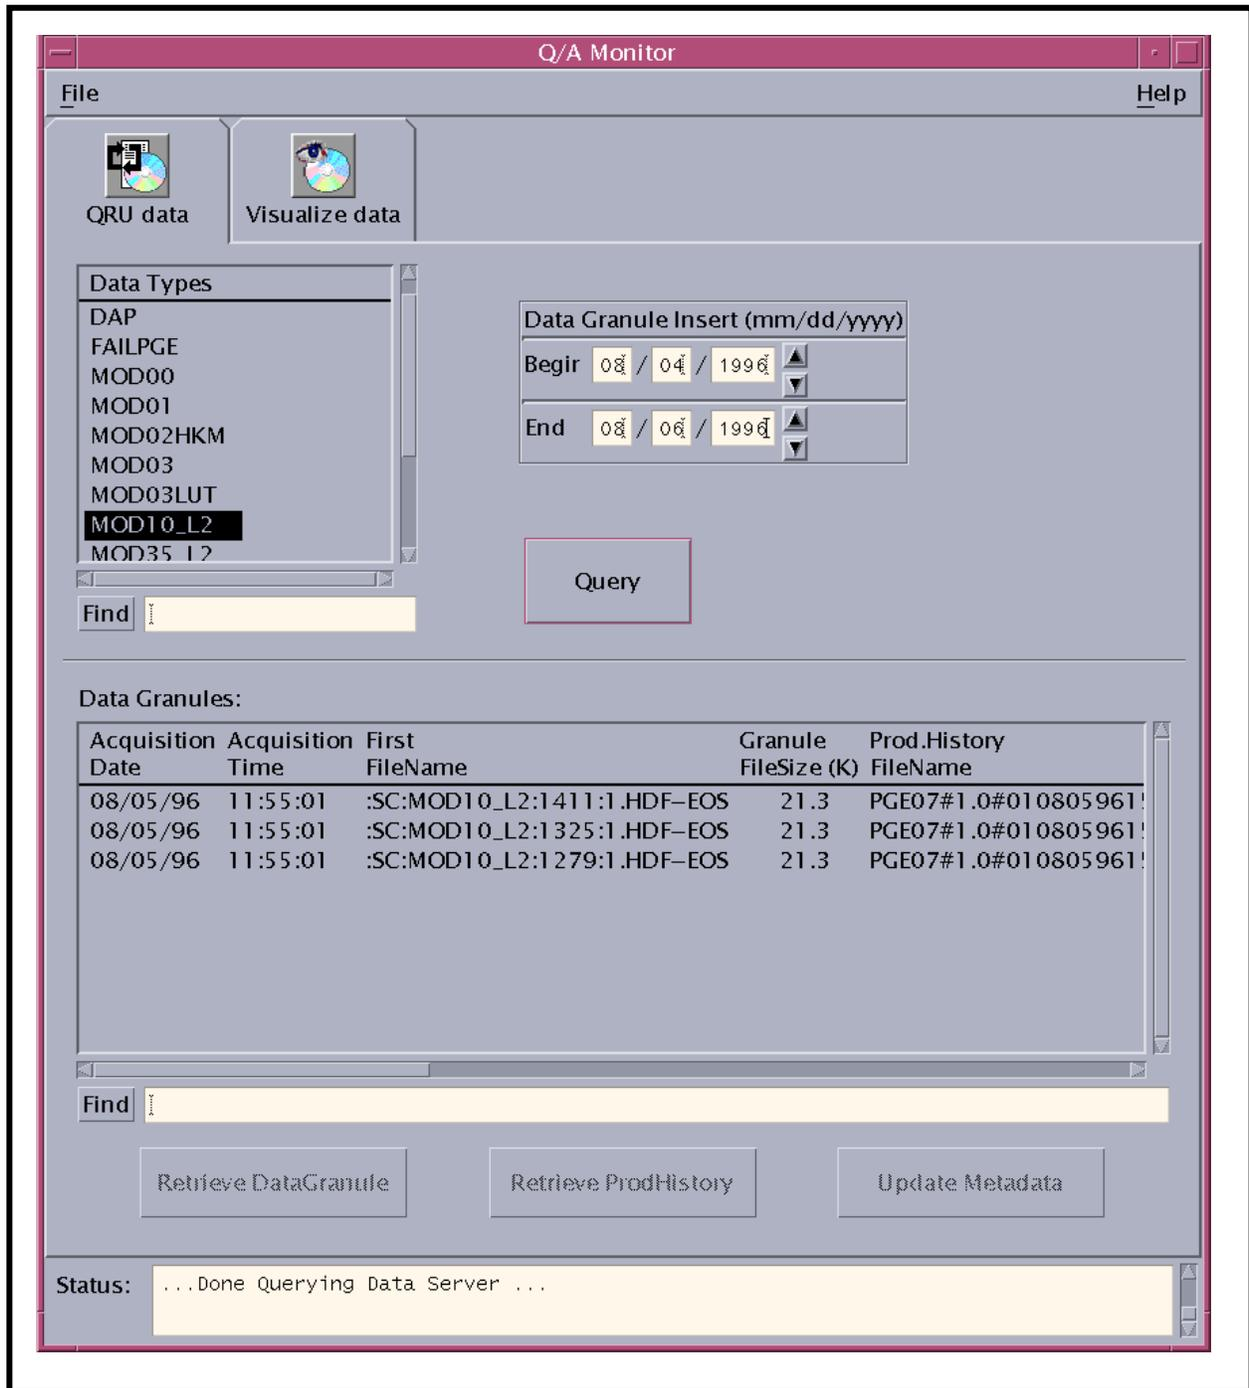

Figure 82. Q/A Monitor GUI - QRU Data Tab
- The **QA Monitor GUI** (Figure 82) is displayed.
The procedure for updating QA metadata starts with the assumption that all applicable servers are currently running and the **Q/A Monitor GUI QRU data** tab (Figure 82) (QRU = Query, Retrieve and Update) is being displayed.